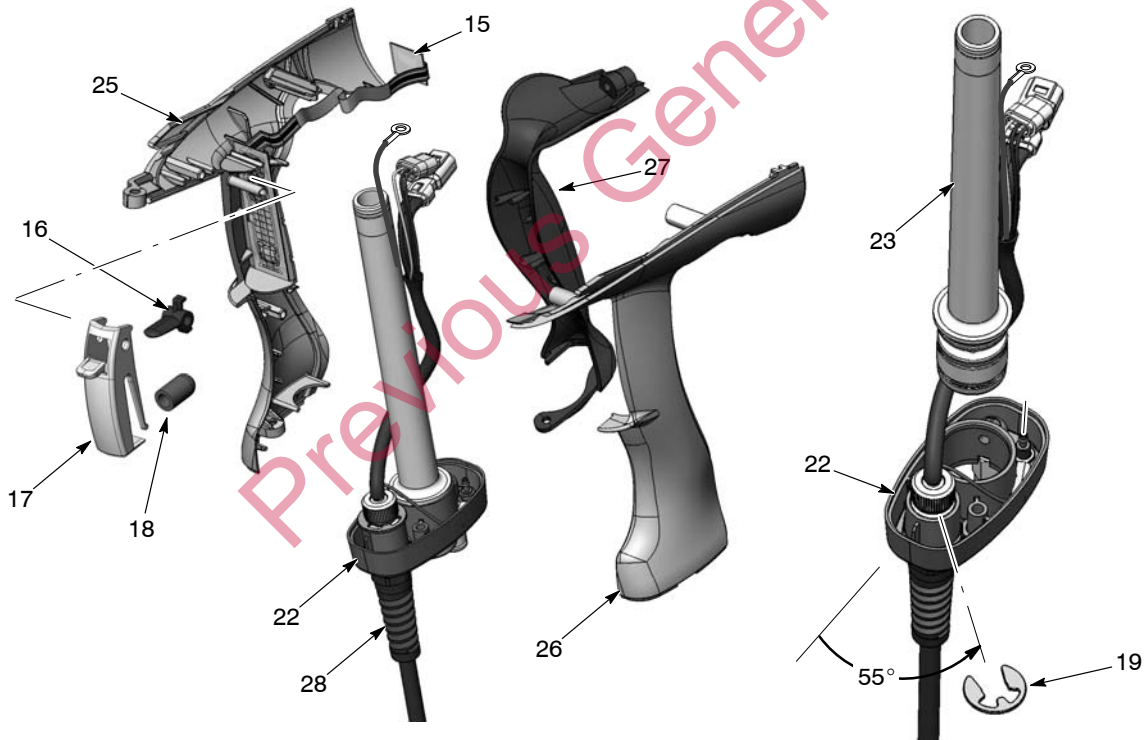
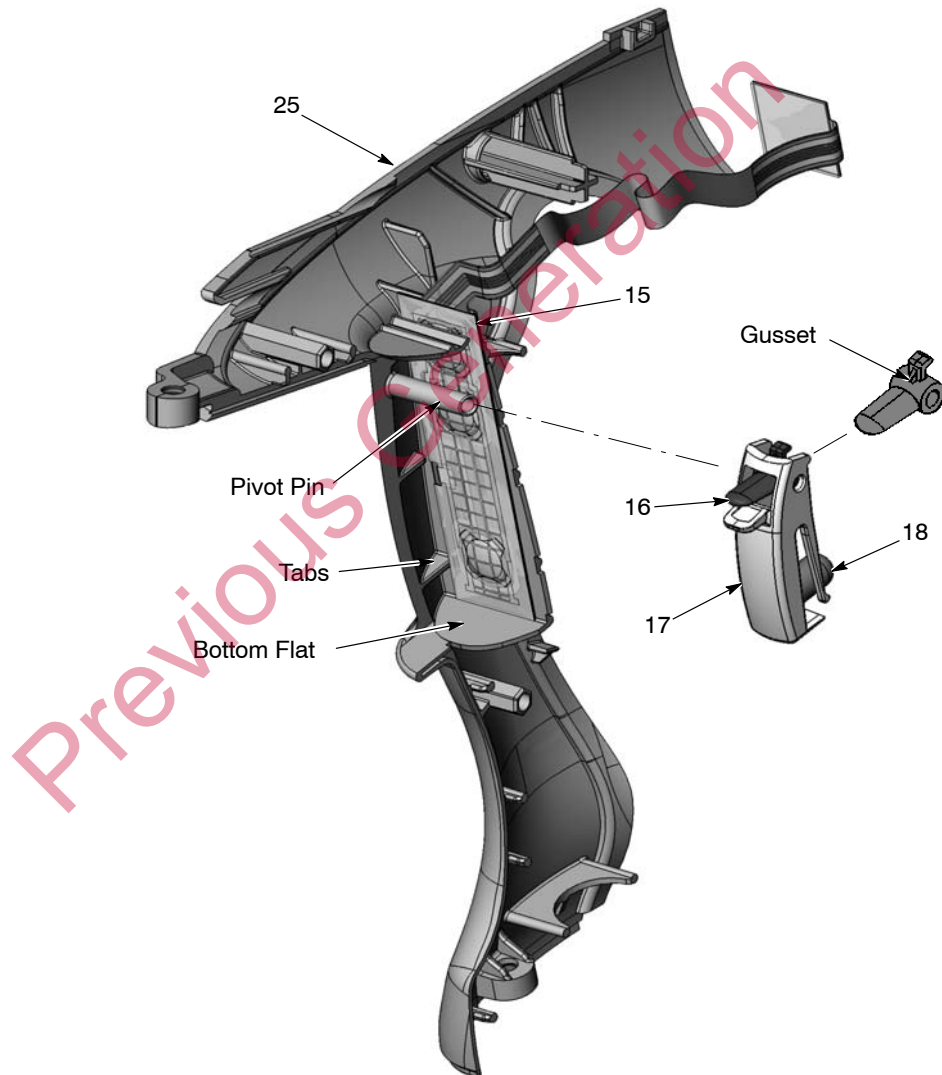

Figure 5-9 Completing Gun Disassembly
Figure 5-10 Trigger Switch and Trigger Mounting
13. See Figure 5-9. Separate the right and left handles (25, 26).
1. See Figure 5-9. Feed the cable (28) through the handle base (22) and secure it to the base with the retaining ring (19). Position the retaining ring at the angle shown.
2. Install the inlet tube with O-rings installed (23) into the handle base (22).
3. See Figure 5-10. If removed, install the trigger switch (15) on the mounting flat of the right handle half (25), up against the tabs and bottom flat. Press firmly on the switch to secure it in place.
4. Assemble the actuator (18) on the main trigger (17) boss. Note the orientation of the settings trigger (16) gusset, then insert it into the main trigger. Align the pivot holes in the triggers then slide the triggers over the trigger pivot pin on the right handle half.